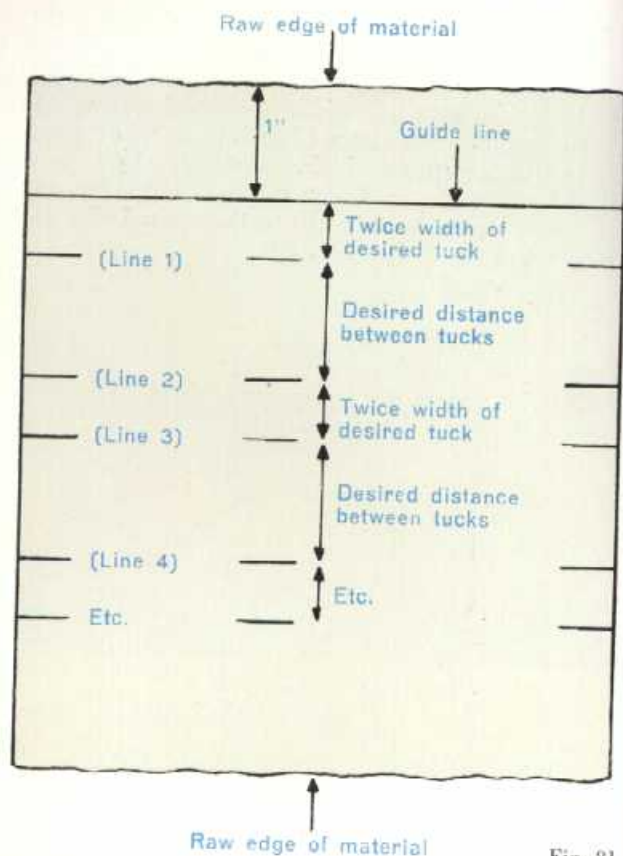

Fig. 81
- 4) Spread the material, right side up, on the working table, then mark a guide line on the material, 1" away from and parallel with the raw edge of the material (see Fig. 81). For marking use white tailor's chalk on dark materials, and colored tailor's chalk on light materials.
material and extending below the guide line. Placing the gauge in this manner at the left edge, at the center and at the right edge of the material, draw short marking lines on the fabric, using the upper edges of both notches as guides. (See Lines 1 and 2 in Fig. 81). Imaginary lines going from the mark at the left edge through the mark in the center to the mark at the right edge are parallel with the guide line.
- 6) Slide the gauge down so that its top end will be at the short marking lines « 2 ». The upper edges of the two notches will indicate the places where new markings (Lines 3 and 4 - see Fig. 81) are to be made for additional tucks. Continue this procedure until the material is completely